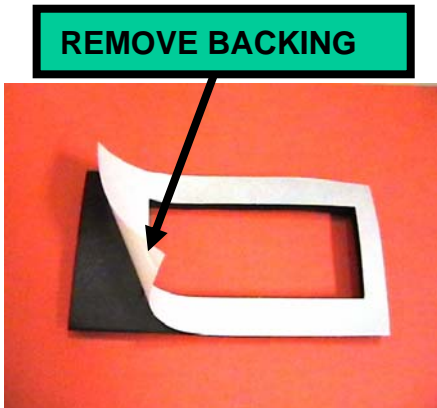
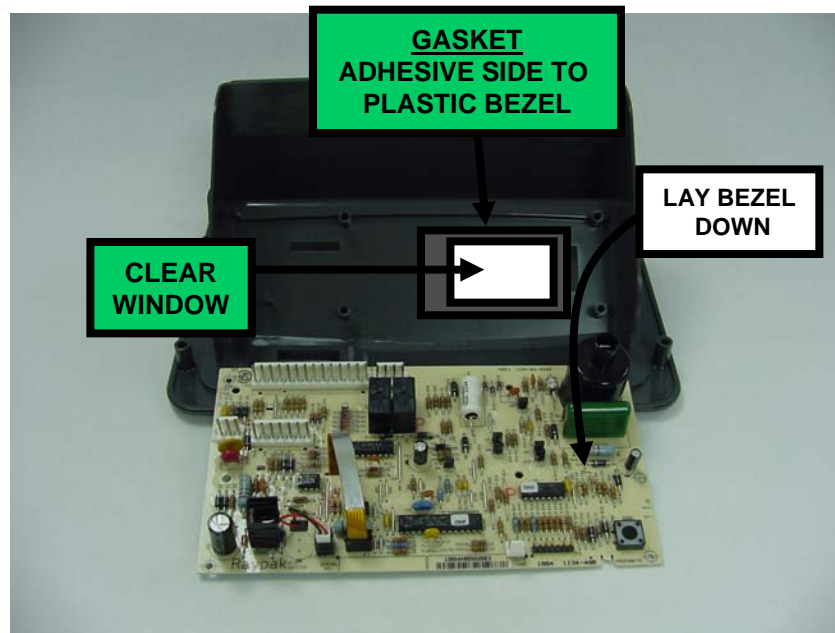

Fig. 24
Fig. 25
1. Remove backing on gasket and install adhesive side on the control panel bezel as shown in **Fig. 24 & Fig. 25**.